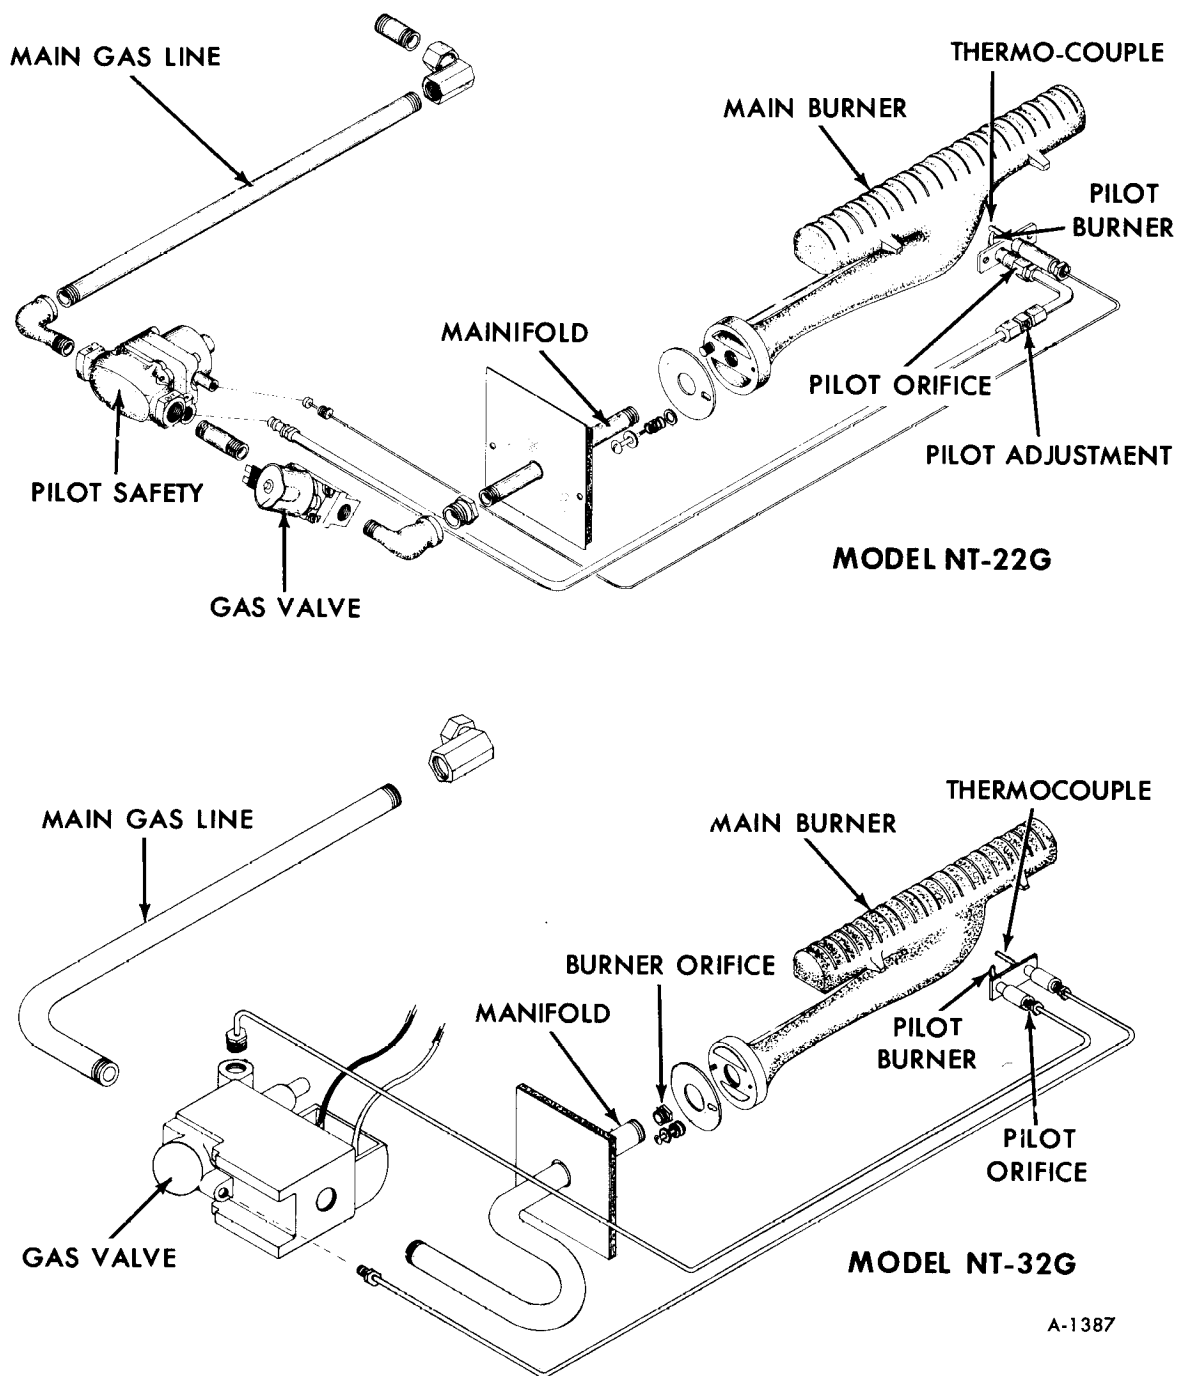

Figure 19-(NT-22G and NT-32G) Valve and Burner Assemblies
7. Disassemble and remove defective component (See figure 19).
1. Assemble burner, valve(s), and gas line as a unit (figure 19).